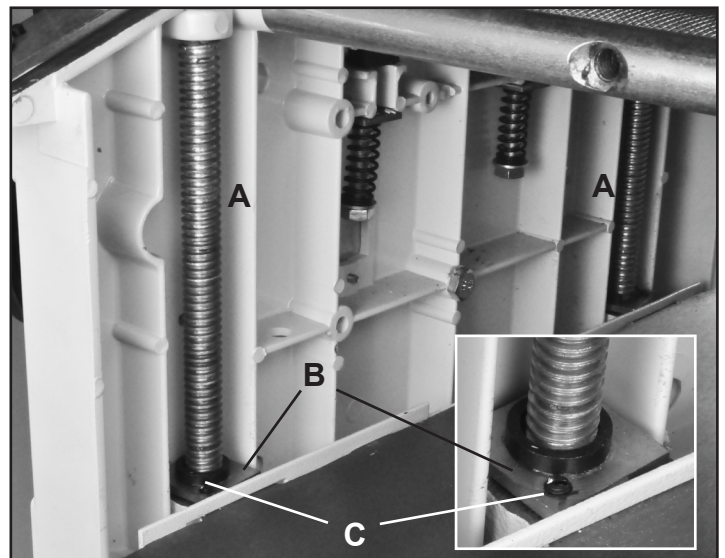

FIG. 24
1. The planer table is attached to the cabinet and move vertically by four Threaded Spindles, or posts (#131, FIG. 24, A). At the base of the spindles, there are positioning Plates (#141, B). Next to the spindle ends, there are four Set Screws (#140A, C) that can be adjusted to slightly raise or lower an end of the planer table so that it will be parallel with the cutterhead.